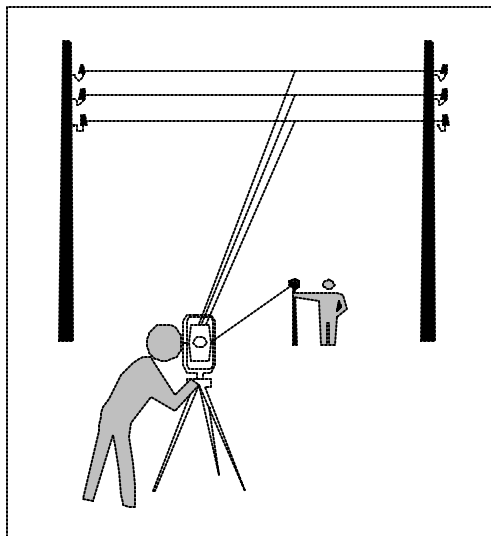

Figure 3-4 Remote Elevation
1. Take a sideshot to a ground point immediately above or below the elevated object, as shown in Figure 3-4.